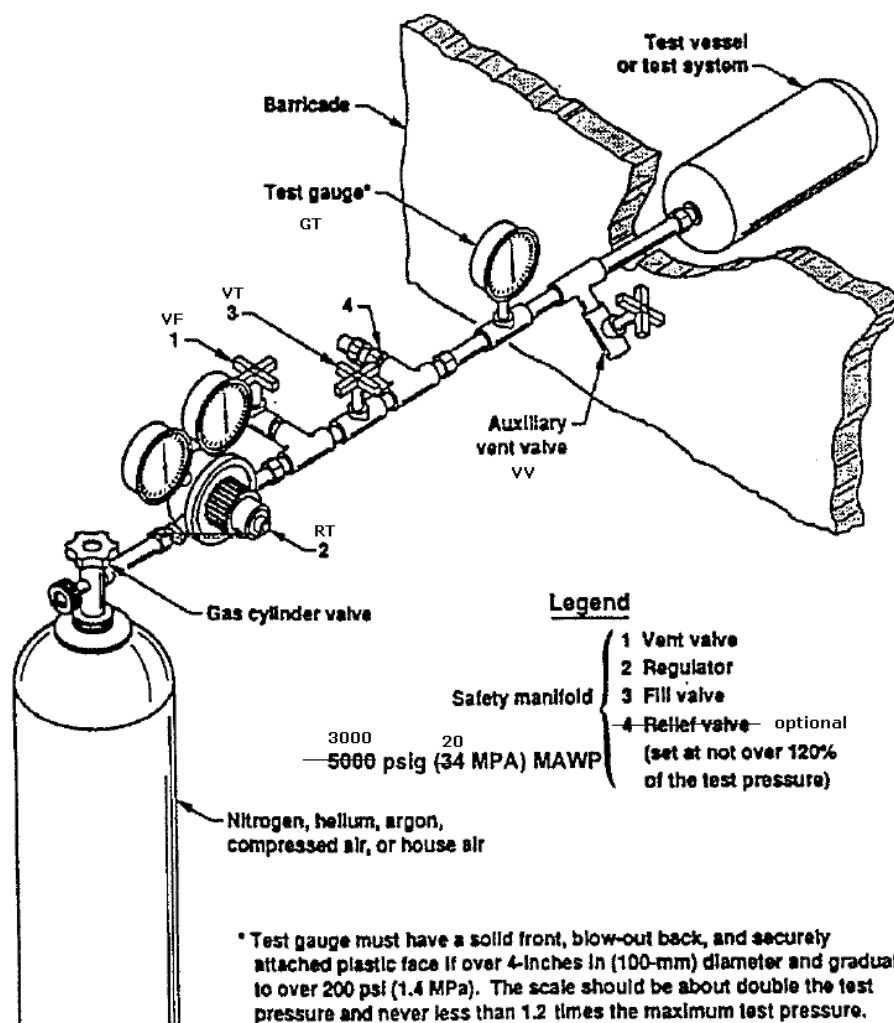

Fig. 17 Pressure Test Set up (Pneumatic, in-situ)
2. Assemble remote gas cylinder, regulator(RT), test gauge(GT) for 563 psig test pressure, test isolation valve(TV), vent valve(VV), fill vent valve (VF) as shown in fig. 17 below, and locate around corner from experiment, out of line sight, and behind wall of cabinets, or wall. Note that the pressure relief valve shown in fig. 17 is optional, since test feed ports T1 and T3 cannot be isolated from the system pressure relief valves.
13. Screw in test regulator slowly, in steps in steps of 20% MAWP (300 psi), each time closing VT, and watching GT to see that stable pressures are achieved. Watch GT for 5 minutes minimum, each time. If leaks occur, back off pressure to 300 psig (20% MAWP) max. and inspect to find leak. See note on possible methods below fig. 17. Once found, back off RT fully, open VV to depressurize fully, and fix leak. If no leaks occur, continue increasing pressure until 1500 psig reads on test gauge. Record pressures on system gauges. Increase pressure to 1875 psig. Hold for 5 minutes, if stable then back off RT, close test gas cyl. valve and release system pressure; otherwise depressurize and fix leak as above. Note that it may be possible to tell when 1500 psig relief valve opens (GT needle will jump to a lower pressure), however this should not be regarded as accurate since 1500 psig relief valve could leak during test.
25. Screw in RT handle slowly, in steps of 20% MAWP (90 psi), each time closing VT, and watching GT to see that stable pressures are achieved. Watch GT for 5 minutes minimum, each time. If leaks occur, back off pressure to 90 psig (20% MAWP) max. and inspect to find leak. See note on possible methods below fig. 17. Once found, back off RT fully, open test vent valve VV to depressurize fully, and fix leak. If no leaks occur, continue increasing pressure until 450 psi reads on GT. Record pressures on system gauges. Increase pressure to 563 psig. Hold for 5 minutes, if pressure is stable, then back off regulator fully, close test gas cyl. valve, and release system pressure through VV; otherwise depressurize and fix leak as above. Note that it may be possible to tell when 450 psig relief valve opens (GT needle will jump to a lower pressure), however this should not be regarded as accurate since 450 psig relief valve could leak during test.
31. Screw in test regulator slowly, in steps of 20% MAWP (70 psi, 50 psi initial), each time closing VT, and watching GT, to see that stable pressures are achieved. Watch GT for 5 minutes minimum, each time. If leaks occur, back off pressure to 50 psig (20% MAWP) max. and inspect to find leak. See note on possible methods below fig. 17. Once found, back off RT fully, open VV to depressurize fully, and fix leak. If no leaks occur, continue increasing pressure until 350 psig (250 initial) reads on GT. Record pressures on system gauges. If gas system pressure gauge (P3) cannot read higher than 438 (313 initial) psi, then hold for 5 minutes, then back off regulator, close test gas cyl. valve, and release system pressure. Remove P3, plug and